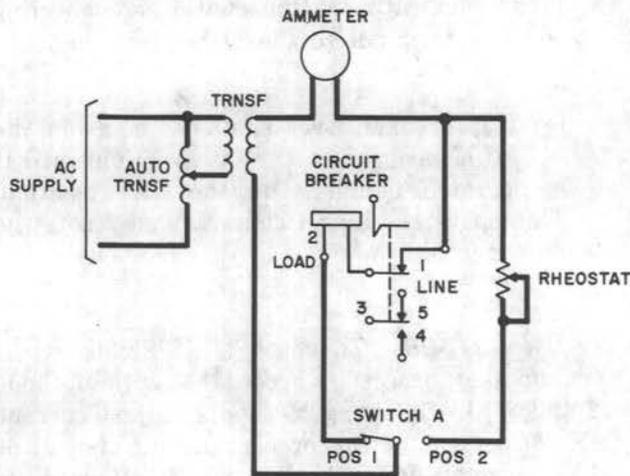

Fig. 18—Checking Circuits—AC Breakers—KS-15713, KS-15815 L5-L18, L46, L47, KS-15943 L1, KS-19735 L1, KS-20684 L5
- (e) **KS-15713:** To check a KS-15713 circuit breaker, proceed in accordance with Method 3. Refer to Fig. 18.
- (m) **KS-15943:** To check the KS-15943 circuit breaker, proceed in accordance with Method 2 except adjust current to 130 percent of the breaker rating instead of 120 percent. Refer to Fig. 18.
- (o) **KS-19735:** To check a KS-19735 circuit breaker, proceed in accordance with Method 3. Refer to Fig. 18.